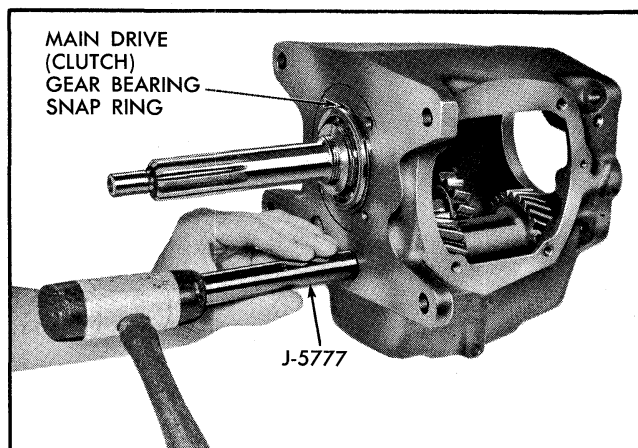

Fig. 7-18 Driving Countershaft Out of Transmission Case
10. Remove countershaft by tapping it from front to rear of case with a brass drift approximately 1/4 inch. Complete removal of countershaft using loader J-5777 (Fig. 7-18). Lower the countergear, with loader J-5777 still in place, to bottom of case.
11. Remove main drive (clutch) gear bearing snap ring (Fig. 7-18).